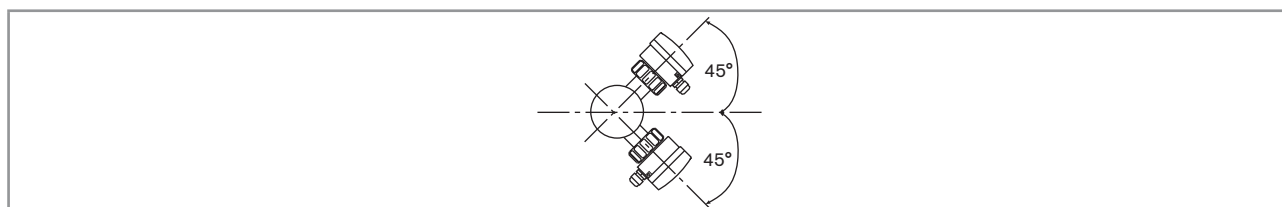

Fig. 4: Mounting angle on the pipe
- Preferably install the device at a 45° angle to the horizontal centre of the pipe to avoid having deposits on the electrodes and false measurements due to air bubbles (see Fig. 4);